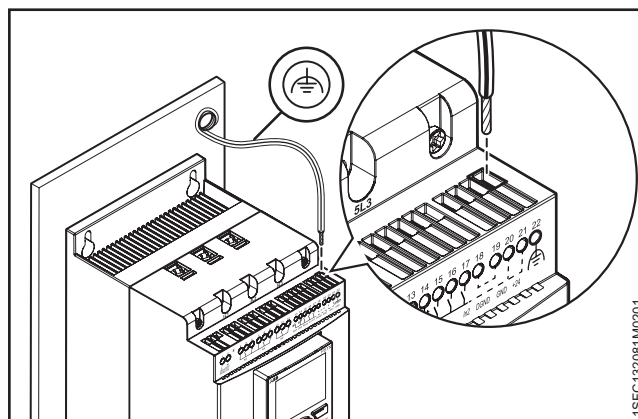

Figure 2.4
5. Connect the functional ground (terminal 22), to a ground point close to the Softstarter, see **Figure 2.4**.